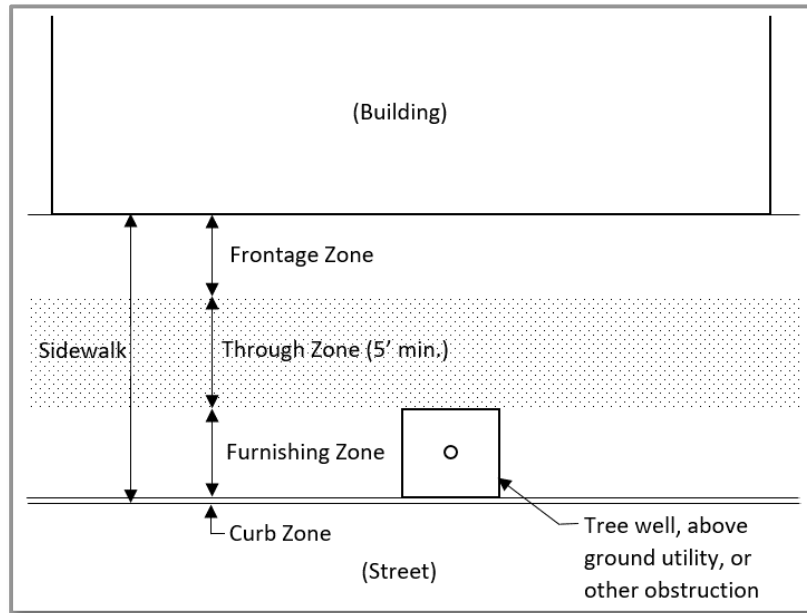

Figure 1 - Frontage Zones
The Parklet Program Manual focuses on activating space within the public right-of-way that generally falls within the curb zone as depicted in "Figure 1 – Frontage Zones". Proposals to activate exterior spaces within the "frontage zone" described on this exhibit or on private property fall under separate approval and permitting processes and any applicant attempting to activate these areas should first contact the Planning and Economic Development Department.
- A. “Private Parklet” means a temporary, non-structural platform constructed within the traveled portion of right-of-way that replaces one or more parallel, perpendicular, or diagonal parking space(s) and all associated furnishings. A platform may be built to bring the grade of the sidewalk out into the street. Once the platform is installed, furnishings such as tables, chairs, benches, bike parking, and/or landscaping may be placed on the platform. Parklets must be placed in the Curb Zone as described in *Figure 1 - Frontage Zones*. The owner of a private parklet may limit the use of the parklet to members of the public who patronize the sponsoring business.
- B. “Public Parklet” means a temporary, non-structural platform constructed within the traveled portion of right-of-way that replaces one or more parallel, perpendicular, or diagonal parking space and all associated furnishings. A platform may be built to bring the grade of the sidewalk out into the street. Once the platform is installed, furnishings such as tables, chairs, benches, bike parking, and/or landscaping may be placed on the platform. Parklets must be placed in the Curb Zone as described in *Figure 1 - Frontage Zones*. Public Parklets are to be designated as publicly accessible open space. Members of the public may freely utilize the parklet regardless of whether they patronize the sponsoring business or not.